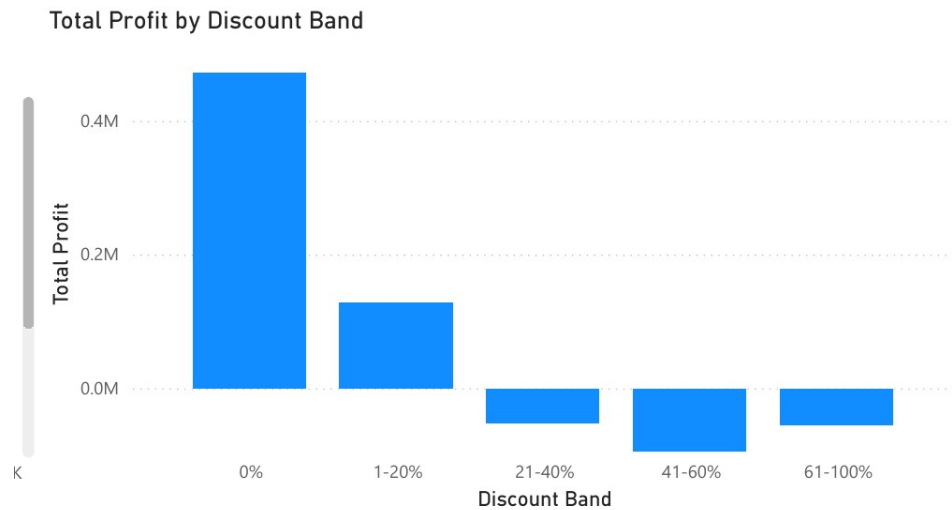

Figure 5: Total Profit by Discount Band (uses the Discount Band calculated column).
- **Cap discounts at 20%.** Figure 5 shows every band above 20% is loss-making; a hard cap with sign-off above it would recover \$200K+ of profit.